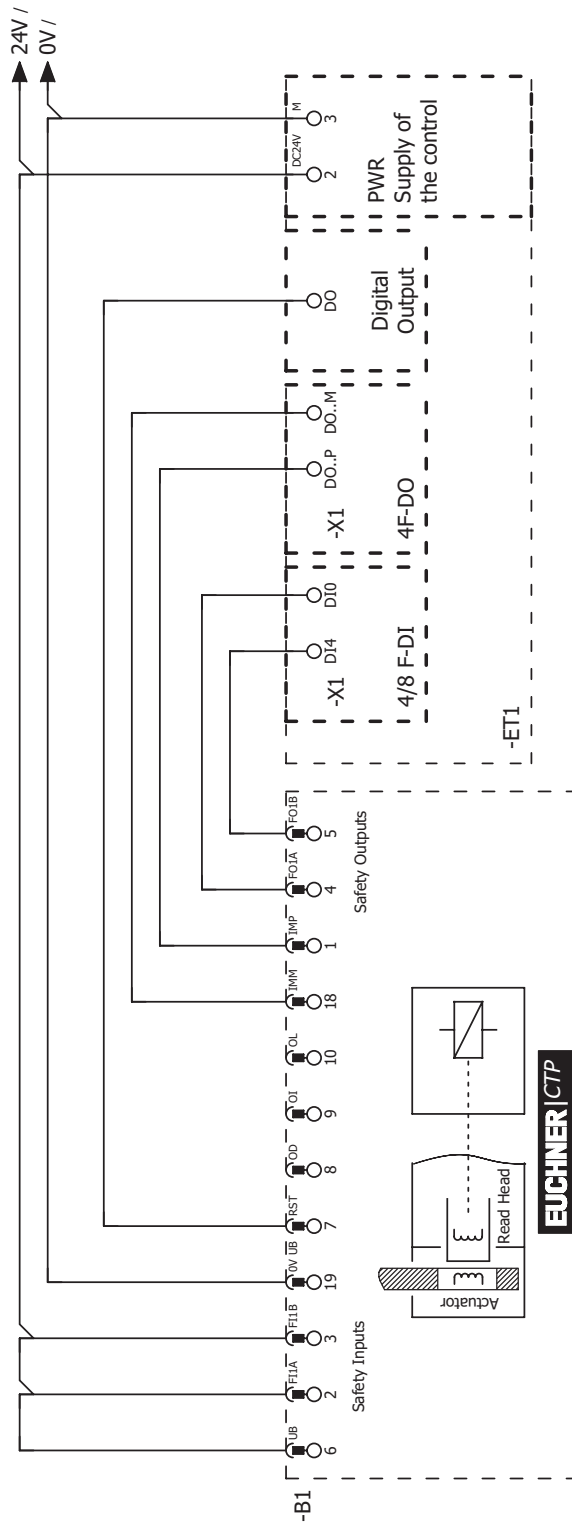

Figure 6: Connection example for the connection to ET200
- › For dual-channel control of the solenoid voltage by safe outputs of a control system, the following points must be observed (see also *Figure 6 on page 27*):